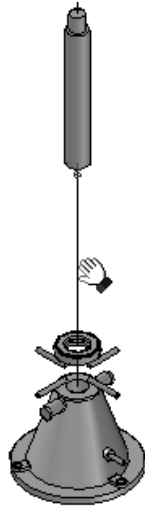

Figure 12-25 Dragging the components
3. After dragging the first component, select the second component and drag it closer to the stationary part, as shown in Figure 12-25.